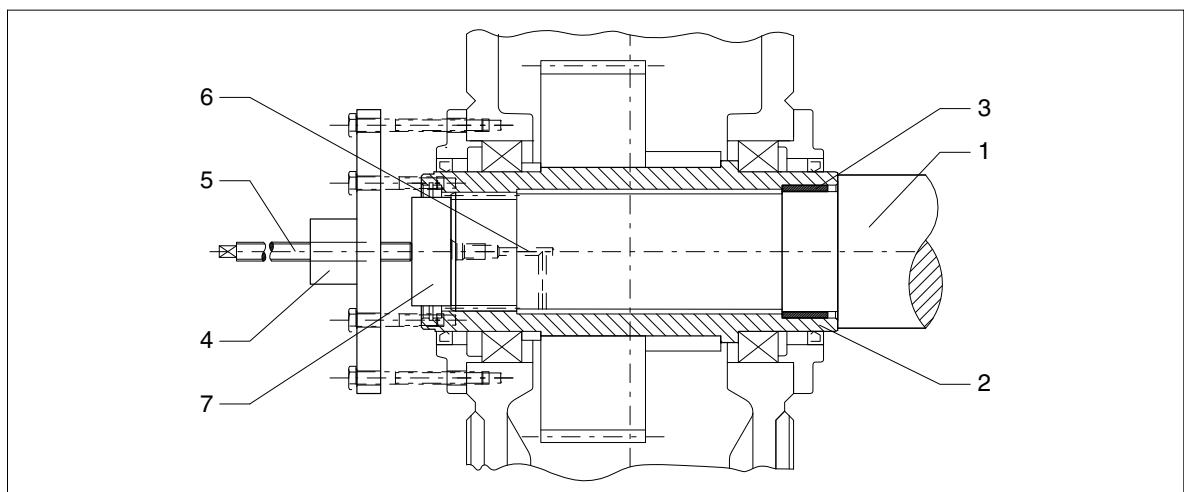

Fig. 48: Hollow shaft with internal spline, demounting with hydraulic lifting equipment ("Lukas")
- If frictional corrosion has occurred on the seating surfaces, rust-releasing agent may be used in order to facilitate forcing off the gear unit. The rust releaser can be injected through the pressure-oil connection (see Fig. 48), e.g. using a pump.
- When the rust-releasing agent has taken effect, pull the gear unit off with the device (see figs. 48 and/or 49).
If the support is provided not only by the hollow shaft, but also by the housing, as shown in fig. 48, the forces used must not exceed the values given in the following table 17.